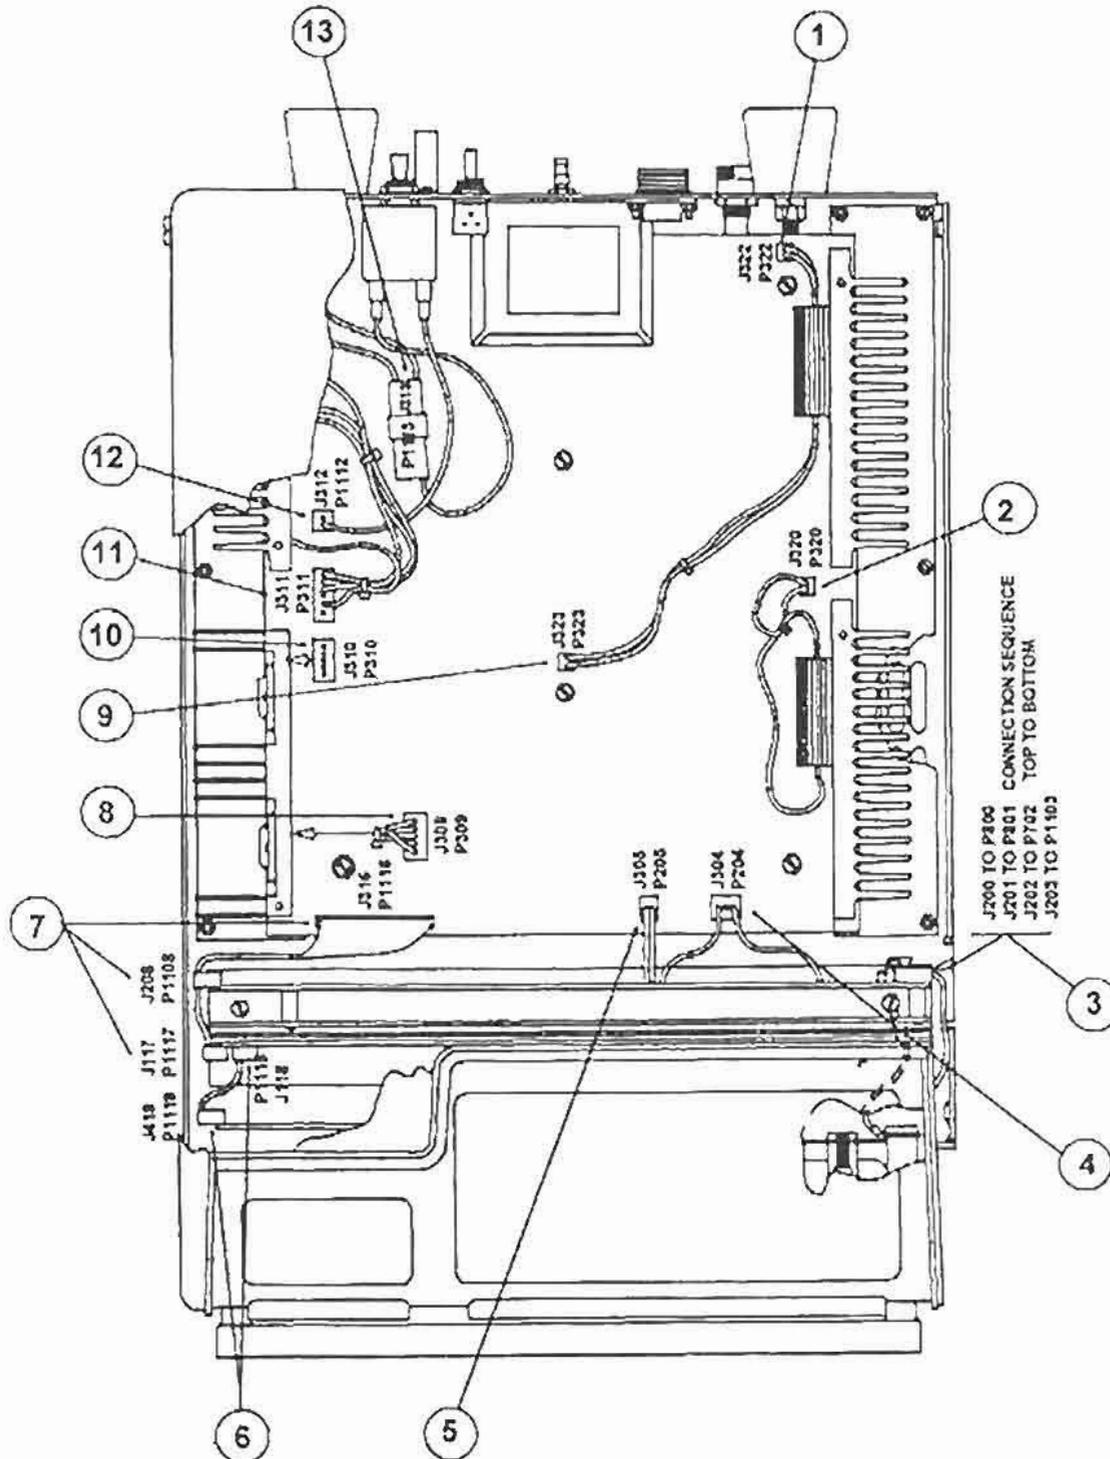
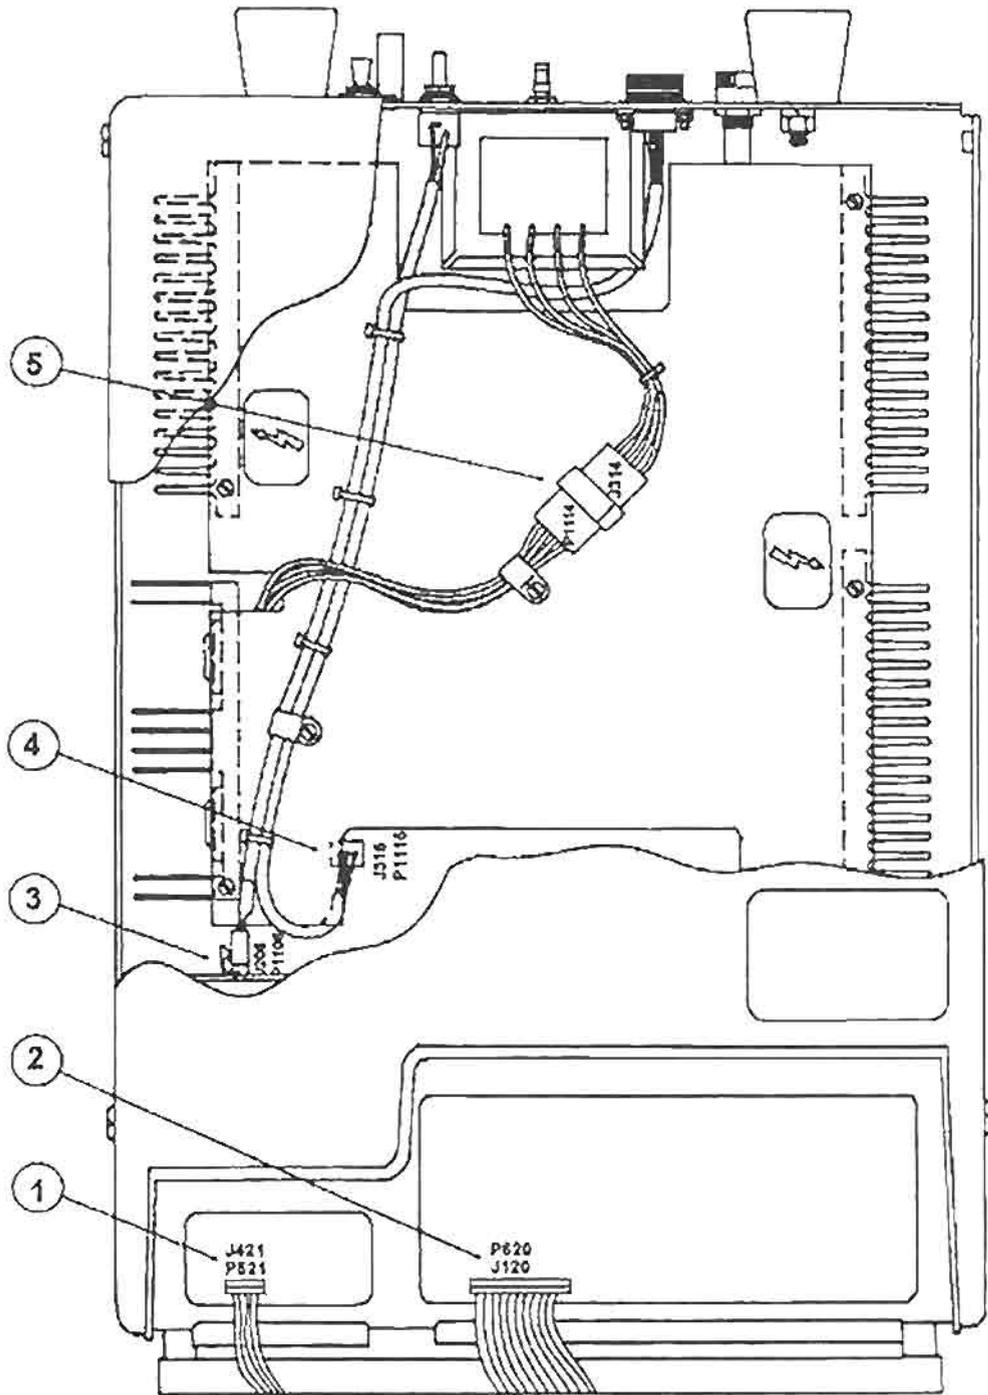

Figure 3-10. Cable connectors - view 1.
Figure 3-11. Cable connectors - view 2.
- a. Cabling/wiring interconnections with electronic plug (P) and jack (J) connectors are identified in figures 3-10 and 3-11.
- b. Call-outs associated with each set of connectors (fig 3-10 and fig 3-11) are used to identify their pin functions in table 3-3.